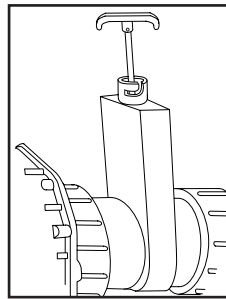

figure 4
2. Open all knife valves that are pointing up. See figure 4. Leave all valves that are facing down in the closed position. Fill the hot tub with water from a garden hose. You can hang the hose over the edge of the hot tub or hook it up to the drain/fill valve located down by the pumps and fill from the bottom. See figure 10. It is recommended you run your water through your garden hose to waste for a few seconds before filling the hot tub.
4. Open the air bleed thumb screws to release any air trapped in the external plumbing. (See Figure 4) There is one on the 300 and 500 series hot tubs, two on a 500 series with Hush pump and a standard 700 series and three on a 700 series with Hush pump. See the equipment configuration diagrams on the next page to locate the air bleed thumb screws. Once all air is bled from the system, open any knife valves that are facing down.